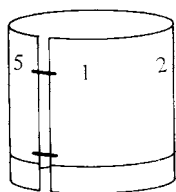

Figure 23.6
8. Curve the paper into a cylinder and staple the edges above the 2-cm line as it is shown in Figure 23.6.